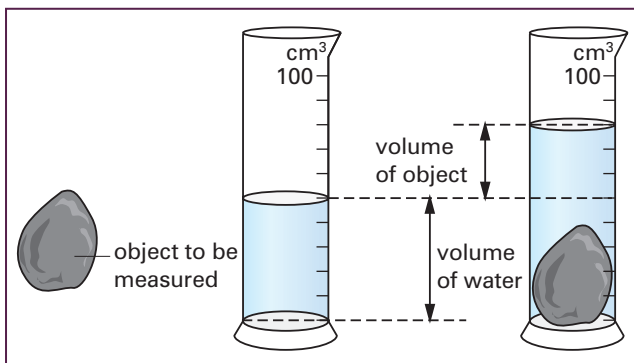

Figure 1.7 Measuring volume by displacement.
- Select a measuring cylinder that is somewhat (three or four times) larger than the object. Partially fill it with water (Figure 1.7), enough to cover the object. Note the volume of the water.